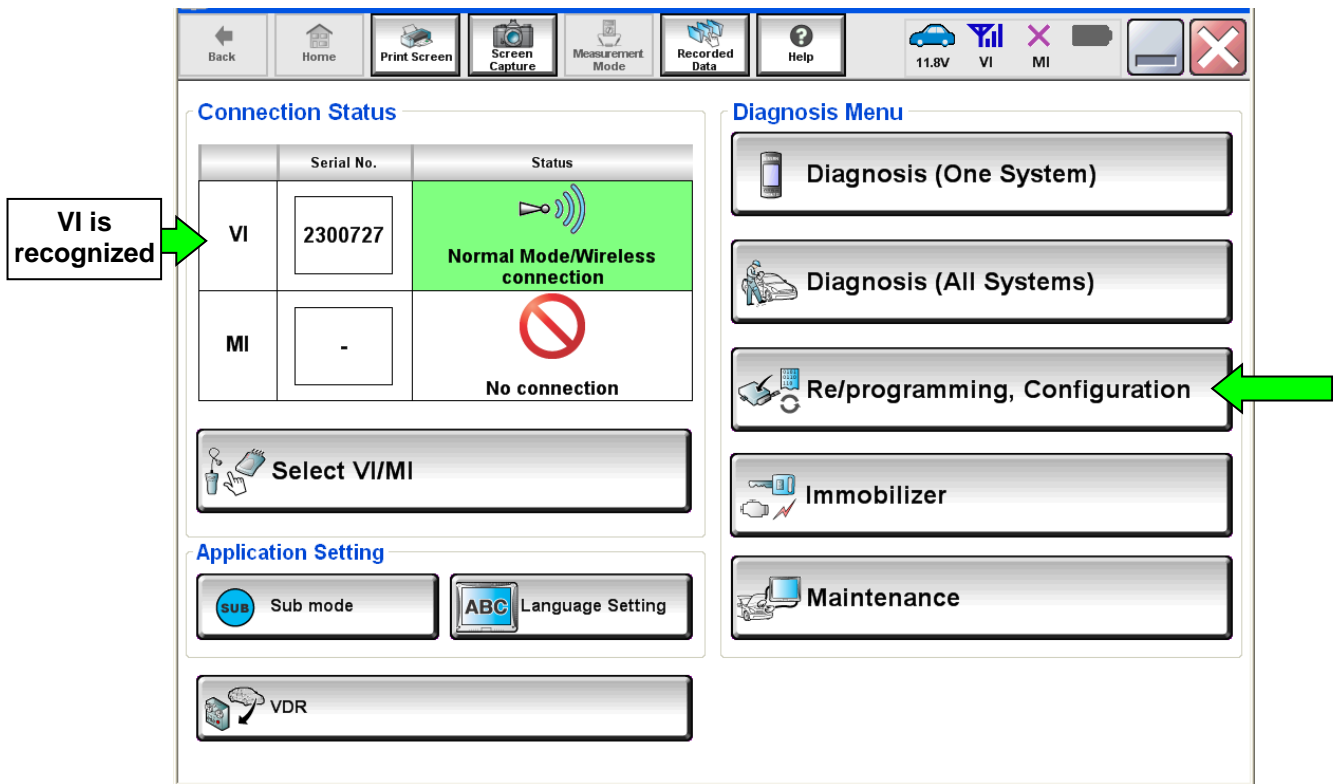

Figure 1
3. Wait for the VI to be recognized (Figure 1).